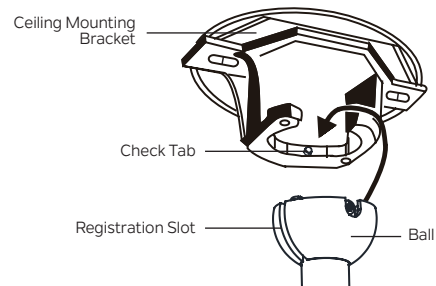

Fig. 10
Step 11. Lift the motor assembly into position and place the ball into the ceiling mounting bracket. Rotate the entire assembly until the “Check Tab” has dropped into the “Registration Slot” and seats firmly. (Fig. 10)